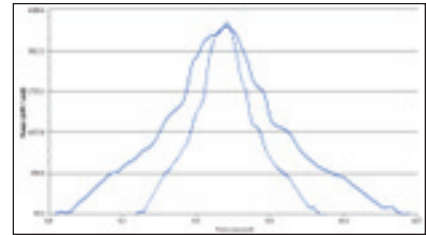

Figure 7.
4. **Process Speed Variations:** Figure 7 shows an LED measured at different speeds. The files were aligned in PowerView III based on the peak irradiance (W/cm^2) values. The peak irradiance values are similar while the "area under the curve" or energy density (J/cm^2) values are much greater for the slower process speed.